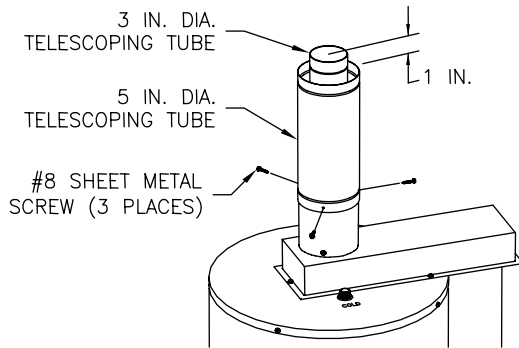

Figure 8a
6. Extend the five (5) inch (12.7 cm) diameter telescopic tube(s) until it is one (1) inch (2.5 cm) below the top of the three (3) inch (7.6 cm) diameter telescopic tube(s). Drill three (3) 1/8 inch diameter holes, 120° apart, through the five (5) inch (12.7 cm) diameter telescopic tube(s) at the joint(s) where the small and large sections overlap. Fasten with three (3) #8 sheet metal screws (supplied). (See Figure 8a or 8b).